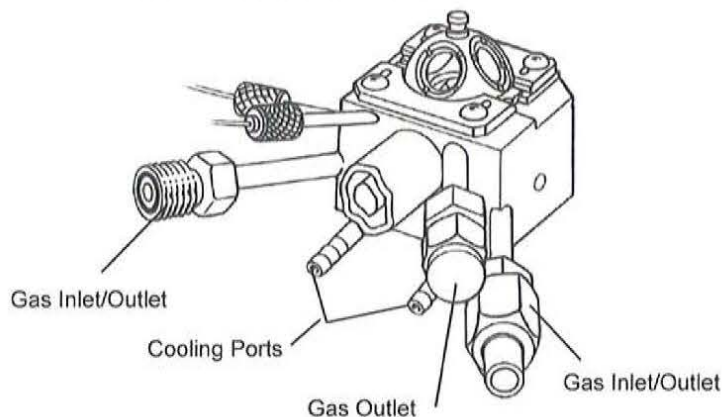

Figure 22 • The CHC installed
- If the CHC is to be operated at temperatures above 100°C or below 0°C, use 1/4" tubing to connect the two cooling ports (see Figure 22) to a water inlet/outlet or a coolant circulator.
- If vacuum is desired, connect the gas outlet (1/4" VCO fitting, see Figure 22) to a vacuum pump or other source of vacuum using 3/8" I.D. vacuum tubing. Seal off the two gas inlet/outlet ports.
- If reaction or process gas/es are to be passed through the sample, connect the gas inlet/outlet ports (1/4" VCO fitting, see Figure 22) as needed to the gas source/s. Connect the gas outlet and seal off any unused gas ports.